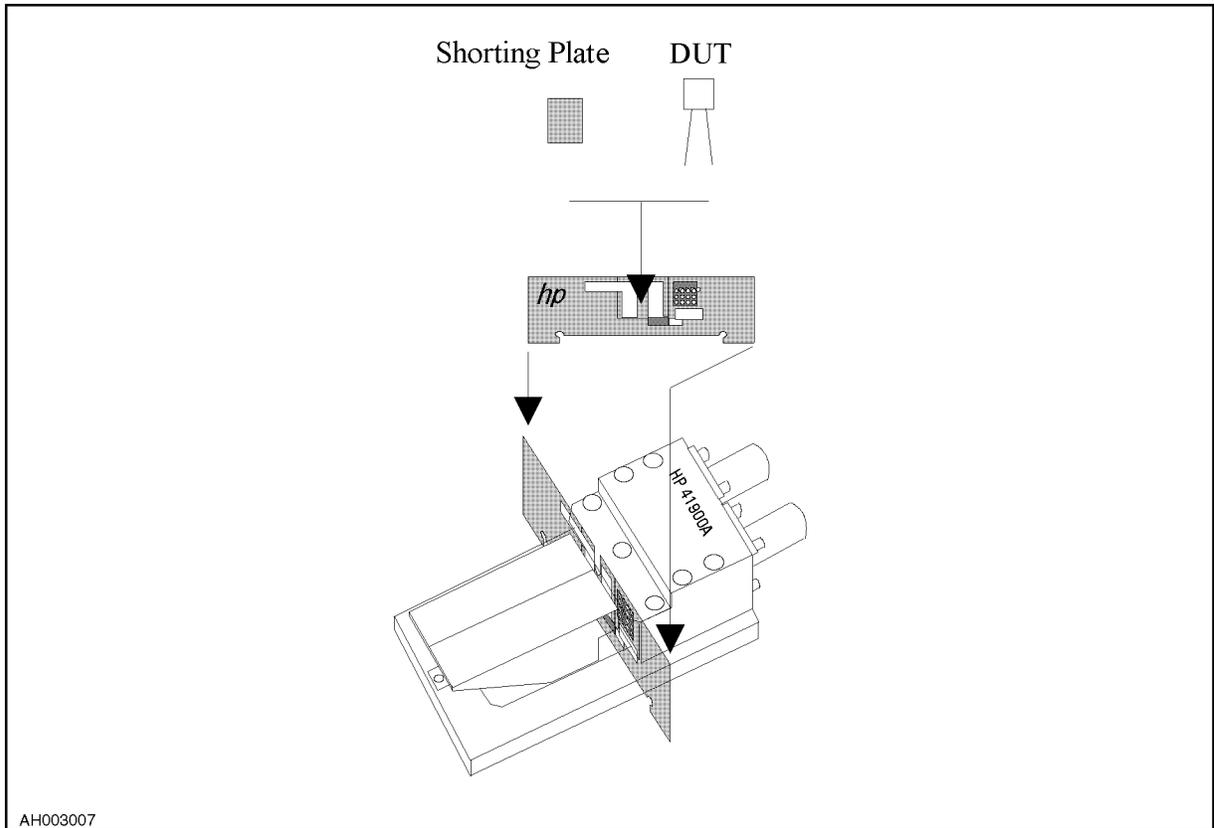

Figure 3-5. C_L Adapter Board Insertion
12. Insert the **C_L** Adapter Board and Shorting Plate as shown in Figure 3-5, and then press softkey **Continue** on the 87510A, E5100A/B or **(F2)** of the external keyboard.
16. Replace the Shorting Plate with the DUT as shown in Figure 3-5.